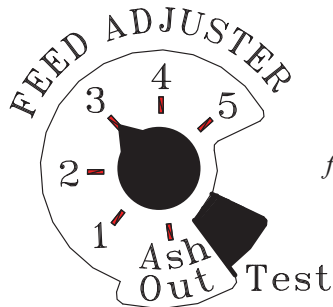

fig. 14
4. Turn Feed Adjuster to the # 3 position, fig. 14.
Turn the temperature control to lowest setting and allow the stove to cool down. Have all cleaning supplies ready and close by. Take note at which # the Feed Adjuster is set, fig 14. Turn Feed Adjuster knob to "Ash Out". (This is the ash removal setting.) This setting turns "off" the Combustion Blower and Feeder Motor but does not turn "off" the Draft Motor. Now the viewing door can be opened with minimal exhaust leakage. Use a safety razor in handle and scrape the inside of the glass with the blade almost flat to the surface, Fig 21. The window can now be cleaned with liquid cleaner and a non synthetic cloth. **CAUTION: HOT GLASS MAY CAUSE CLEANER TO BOIL.** If you take more than 4 minutes, the Distribution Blower will start to cycle up and down to indicate the Feed Adjuster knob was left in the "Ash Out" (ash removal setting). This is not a problem if you remember to return the Feed Adjuster to its previous setting when completed.